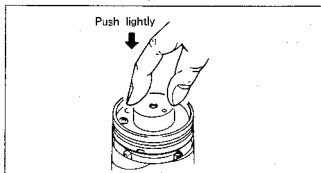

Fig. 7-48.
- 3) Remove jig ⑥ and push the rotary upper drum in by hand, lightly. (See Fig. 7-48.) When it is not inserted all the way, tighten the two hexagonal bolt screws ① alternately to temporarily fix it.
- 4) Insert jig ⑥ into the positioning hole ⑧ again and confirm that it goes in smoothly. If not, loosen the two hexagonal bolt screws ① and adjust it by inserting a clock screwdriver into the hole.
- 5) Tighten the two hexagonal bolt screws ①.